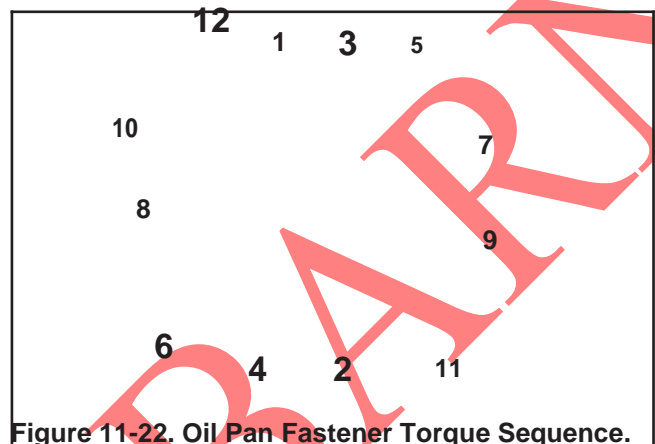

Figure 11-22. Oil Pan Fastener Torque Sequence.
4. Torque the fasteners, in the sequence shown in Figure 11-22 to **24.4 N·m (216 in. lb.)**.